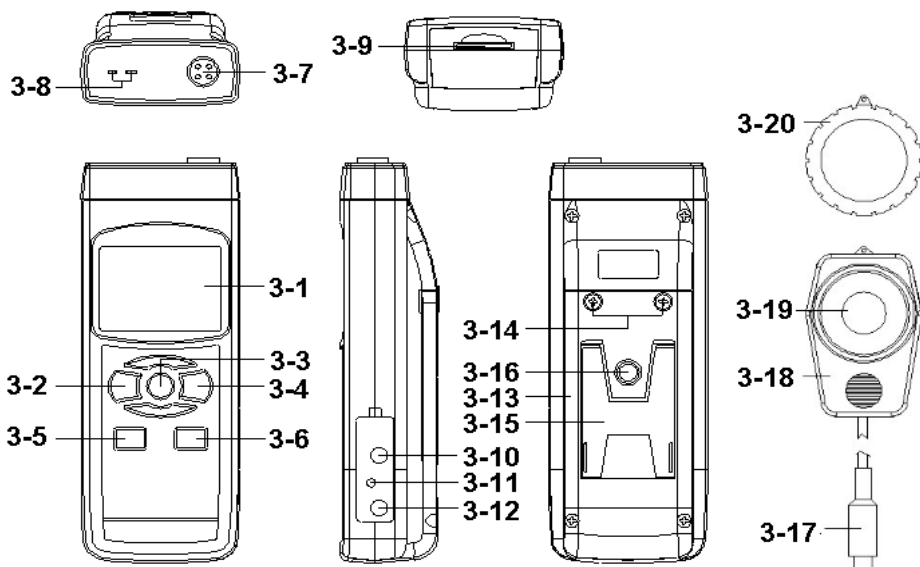

Fig. 1
(3-2, Fig. 1) momentarily.
** Pressing the " Power Button " (3-2, Fig. 1)
Pressing the " Function Button " (3-3, Fig. 1)
just release the " Function Button " (3-3, Fig. 1), the
- Install the " Probe Plug " (3-17, Fig. 1) into the
" Probe Input Socket " (3-7, Fig. 1).
(3-2, Fig. 1). The display will show the " LUX " (Ft-cd)
- c. Use the fingers to hold the " Sensor Handle " (3-18), face the " Light Sensor " (3-19, Fig. 1) against to the measurement light source directly. The display will show the light measurement value.
- * ***During the normal Light measurement, if blank the Light Sensor (3-19, Fig. 1) by " Sensor Cover " (3-20 , Fig. 1), the display not show zero value, press the " Zero Button, Logger Button " (3-6, Fig. 1) > 3 seconds, Display will show zero value. Upon completion, remove the sensor cover.***
- b. Not install the Humidity " Probe Plug " (3-17, Fig. 1) into the " Probe Input Socket " (3-7, Fig. 1)
- c. Plug the Thermocouple Temp. Probe (Type K Temp. probe or Type J Temp. probe, optional) into " Type K/J Probe Input Socket " (3-8, Fig. 1)
During the measurement, press the " Hold Button " (3-3, Fig. 1) once will hold the measured value & the LCD will display a " HOLD " symbol.
1) The data record function records the maximum and minimum readings. Press the " REC Button " (3-4, Fig. 1) once to start the Data Record function and there will be a " REC. " symbol on the display.
a) Press the " REC Button " (3-4, Fig. 1) once, the " REC. MAX. " symbol along with the maximum value will appear on the display.
If intend to delete the maximum value, just press the " Hold Button " (3-3, Fig. 1) once, then the display will show the " REC. " symbol only & execute the memory function continuously.
b) Press the " REC Button " (3-4, Fig. 1) again, the " REC. MIN. " symbol along with the minimum value will appear on the display.
If intend to delete the minimum value, just press the " Hold Button " (3-3, Fig. 1) once, then the display will show the " REC. " symbol only & execute the memory function continuously.
After power ON, the " LCD Backlight " will light automatically. During the measurement, press the " Backlight Button " (3-2, Fig. 1) once will turn OFF the " LCD Backlight " .
Prepare a " SD memory card " (1 G to 16 G, optional), insert the SD card into the " SD card socket " (3-9, Fig. 1). The front panel of the SD card should face against the the down case.
Press the " REC Button (3-4, Fig. 1) once , the LCD will show the text " REC " , then press the " Logger Button " (3-6, Fig. 1) , the " REC " will flashing, at the same time the measuring data along the time information will be saved into the memory circuit.
During execute the Datalogger function , if press the " Logger Button " (3-6, Fig. 1) once will pause the Datalogger function (stop to save the measuring data into the memory circuit temporally). In the same time the text of " REC " will stop flashing.
If press the " Logger Button " (3-6, Fig. 1) once again will execute the Datalogger again, the text of " REC " will flashing .
During pause the Datalogger, press the " REC Button " (3-4, Fig. 1) continuously at least two seconds, the " REC " indication will be disappeared and finish the Datalogger.
Press the " REC Button (3-4, Fig. 1) once , the LCD will show the text " REC " , then press the " Logger Button " (3-6, Fig. 1) once, the " REC " will flashing once and Beeper will sound once, at the same time the measuring data along the time information will be saved into the memory circuit. The lower Display will show the Position (Location) no. and saved into the SD card too.
During execute the Manual Datalogger, press the " ▼ Button " (3-5, Fig, 1) the lower no. (position no.) will flashing. It can use the " ▲ Button " (3-6, Fig. 1) or " ▼ Button " (3-5, Fig. 1) to set the measuring position (1 to 99, for example room 1 to room 99) to identify the measurement location , the lower Display will show P x (x = 1 to 99). After the position no. is selected, t press the " Enter Button " (3-4, Fig. 1) to confirm.